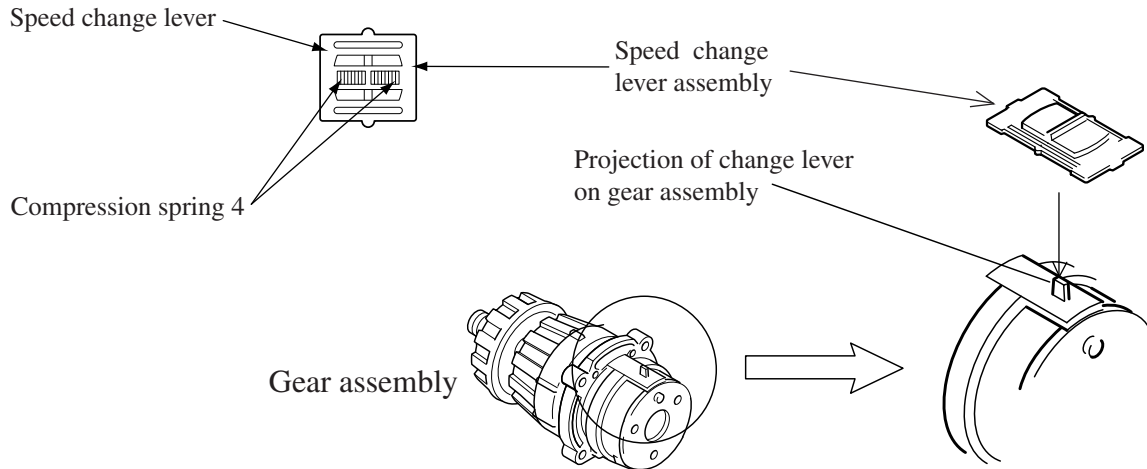

Fig. 7
(3) Assembling speed change lever
- 2 Be careful that compression spring 4 may not comes out. Install speed change lever assembly on the projection of change lever as shown in Fig. 7.